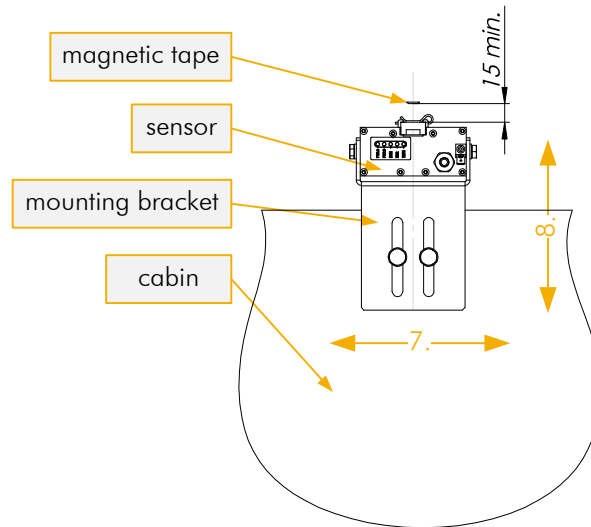

Fig. 11: Distance and orientation of the magnetic tape in relation to the sensor.
7. Adjust the position of the sensor using the tape as a reference. First align the sensor and magnetic tape on their centerline. (Step 7 in Fig. 11).